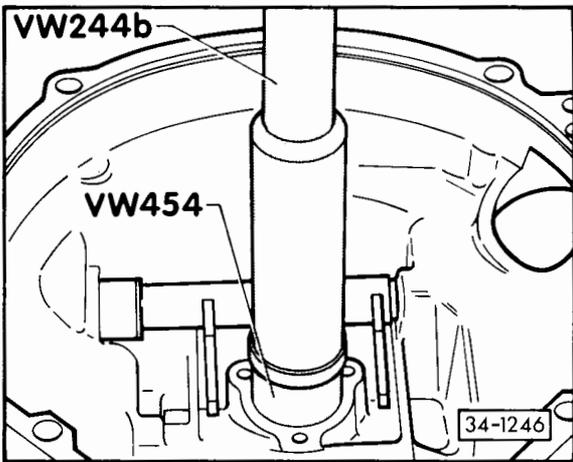

Fig. 2 Knocking input shaft oil seal in
- Driving in – Fig. 2
- Installing – Fig. 2